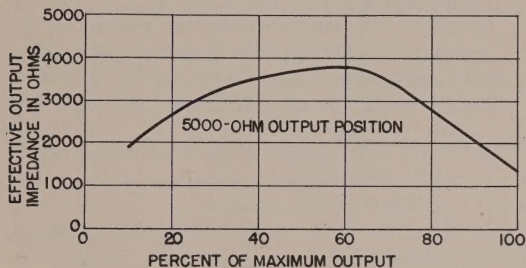

Figure 3. Effective Output Impedance vs Output Control Setting.
2.2.3 OUTPUT IMPEDANCE. The output impedance may be either 600 ohms balanced or unbalanced, or 5000 ohms unbalanced, depending on the OUTPUT IMPEDANCE button pushed. The 600-ohm position uses transformer coupling and can thus be operated into either a balanced or grounded line, whereas the 5000-ohm position can be operated unbalanced only. The OUTPUT control varies the output level for all three positions semilogarithmically. Since this control is a potentiometer, the output impedance is not constant for the 5000-ohm output. The 600-ohm output is essentially constant due to a resistive isolation network. A curve of the effective output impedance vs potentiometer setting is given in Figure 3.